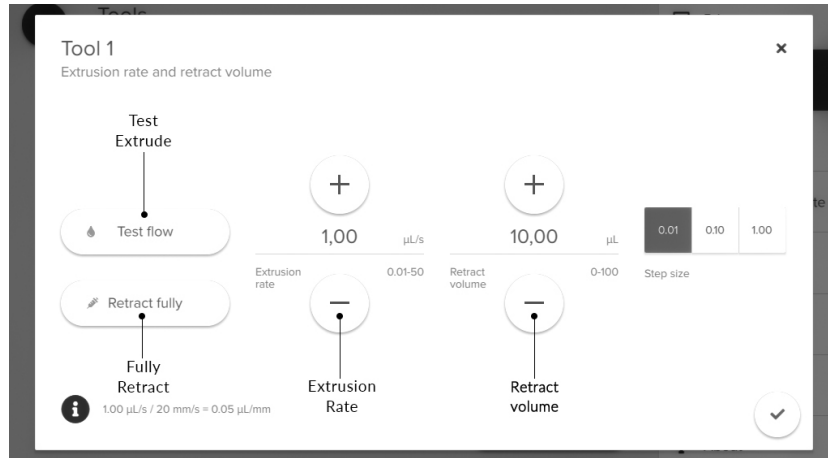

Figure 8: Setting the retract volume. This parameter is necessary to stop flow when extrusion is stopped.
12. Set the retract volume; 10-25 μL is a good starting point for most bioinks. The retract volume will retract the syringe by the volume you set to stop the flow when extrusion is stopped (Figure 8). See the printing guidelines below for more information.